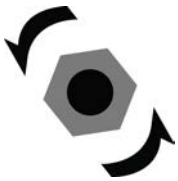

Fig 1. Remove Screwcap
- Locate the safety reset on the back of the heater circulator. It is either a black or red knob (**Fig 1**).